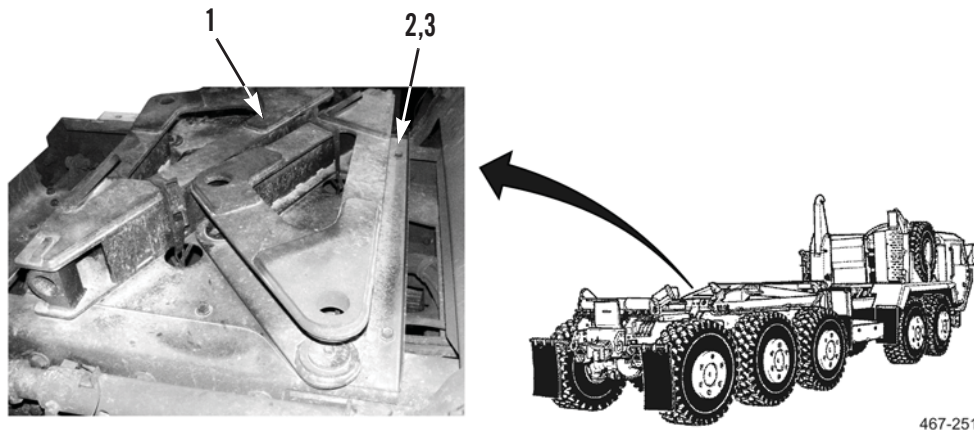

Figure 22. Hard Lift Installation.
1. Attach sling and lifting device to hard lift (Figure 22, Item 1).
2. Use lifting device to install hard lift (Figure 22, Item 1) on vehicle.
3. Install six bolts (Figure 22, Item 3) and nuts (Figure 22, Item 2), on hard lift (Figure 22, Item 1).